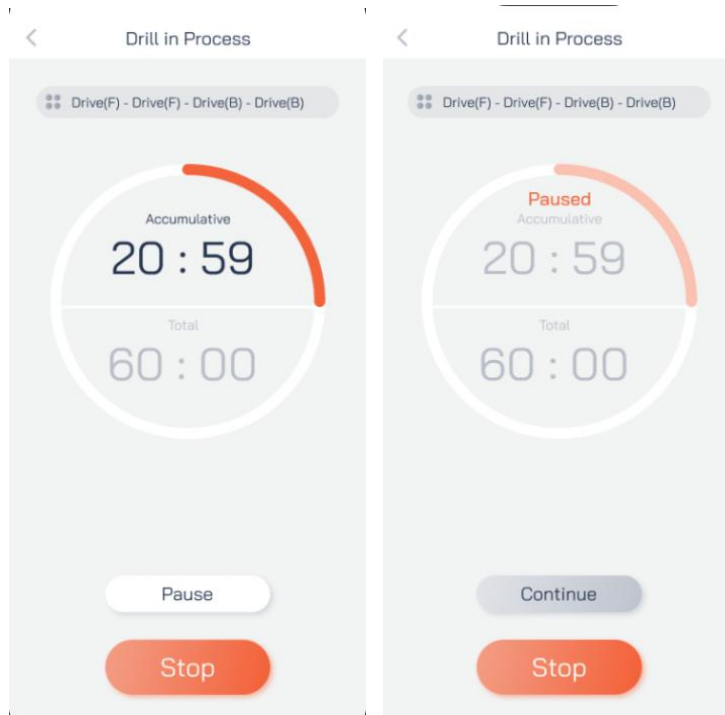

Figure 3-11
3.4.5 In Drill in Process interface, users can view the target training duration and the accumulated training time. They can also pause, continue, or stop the training (Figure 3-11).